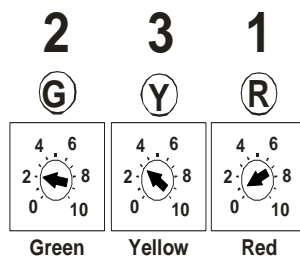

FIGURE 7
12. Before reinstalling the fuel tank bolts and the seat, verify your connections. Remove the door from the Fi2000 box to expose the LED's. The pot settings on the Fi2000 must be set to match the proper intake and exhaust configuration, Refer to Figure 7 and the **Advanced Tuning** section below to determine the proper configuration. Verify the wire connections by (1) turning the ignition on, prior to starting, and see if all three LED's are on steady. If you have no light, your ground connection (BLACK wire) has not made proper contact or the injector connections are not complete. (2) After achieving a steady light from all three LED's, start the motorcycle, wait 15 seconds and let it idle, the green light should now be the only LED on. If all three LED's are still on after start up, verify you have attached the injector connectors correctly. Reattach the door when finished. **Note:** Make sure the ignition is turned off before changing any connection.